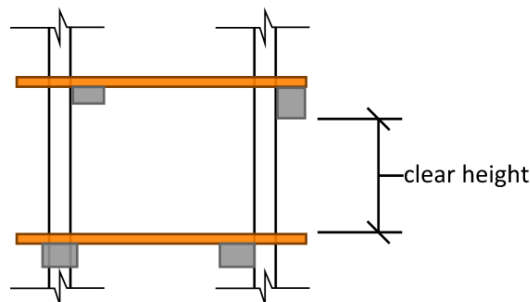

Figure 4: Definition of clear height
- The clear floor height is defined as the distance between the bottom edge of the lowest beam at the floor above, and the top edge of the highest beam or floor diaphragm (whichever is higher) at the level below. This is shown in Figure 4 below.